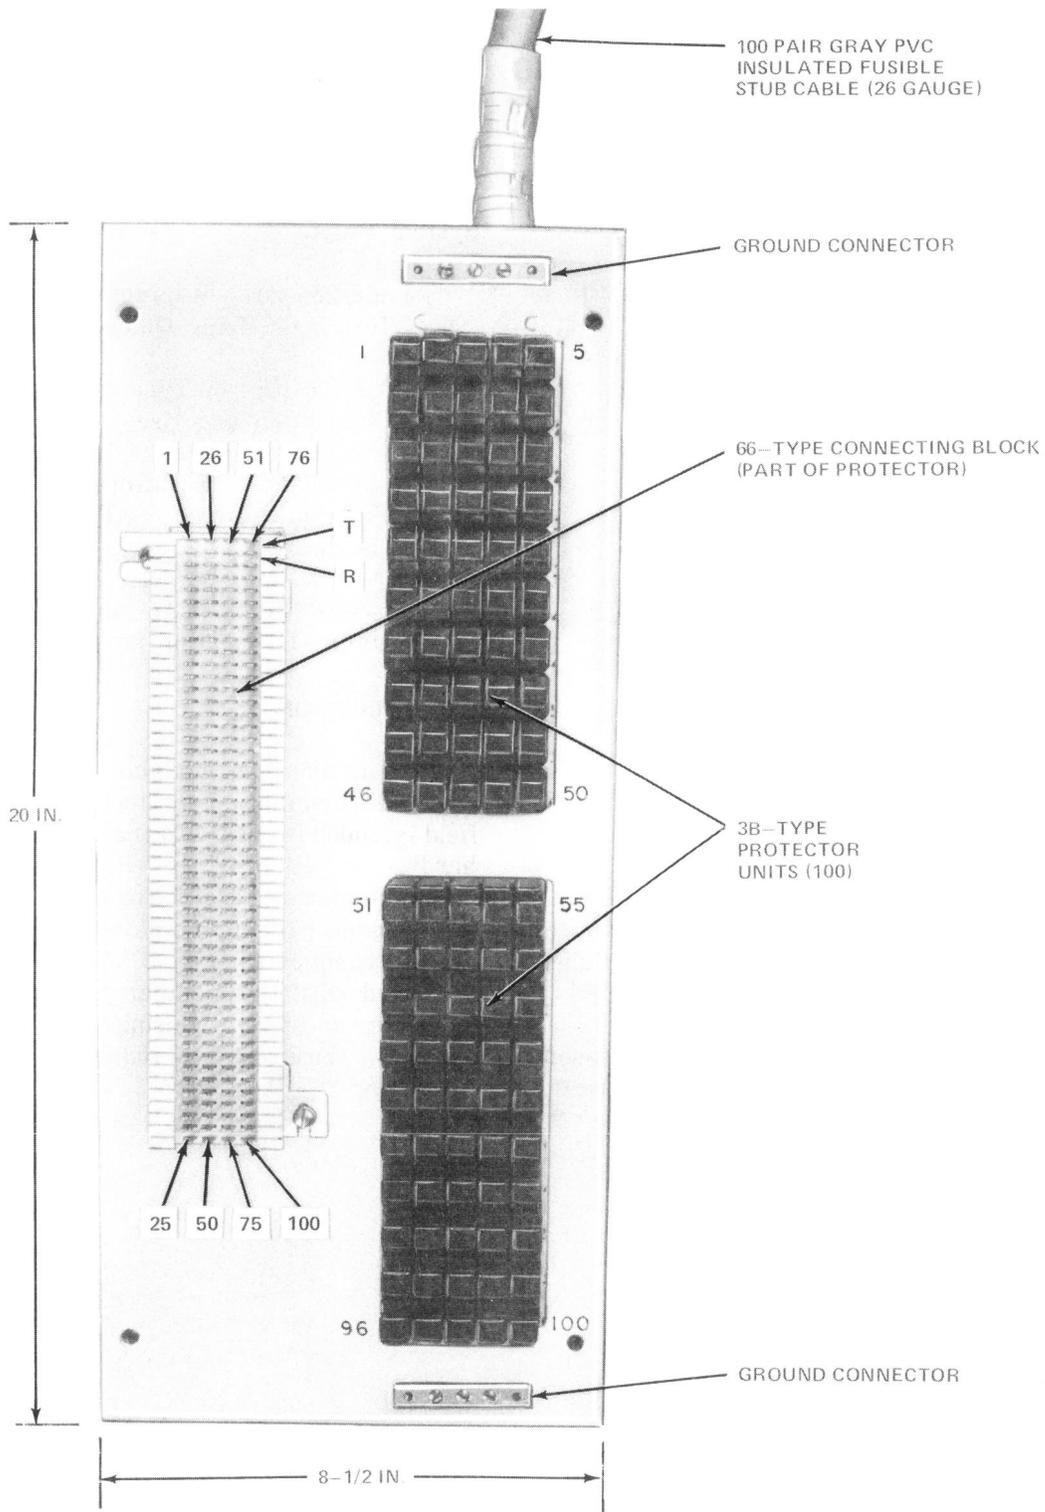

Fig. 1—189-Type Modular Protector
2.01 The 189-type modular protector (Fig. 1) is a combination protector and terminating field intended for use with the 66-type quick-connect hardware. It provides electrical protection at building entrance terminals for 50 and 100 exposed feeder cable pairs by using the 3B protector unit. A full complement of 3B1A protector units is furnished with the modular protector. The 3B3A protector unit (red housing) should be used to designate those circuits requiring Special Service Protection (SSP).